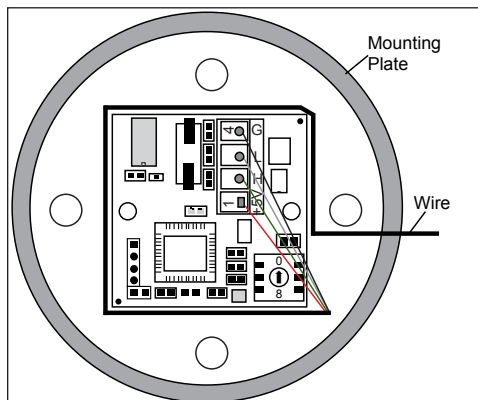

Figure 8: Wiring Around Sensor
4. Make sure to route cable around the sensor board as shown in **Figure 8**.
6. Make sure to route cable around the sensor board as shown in **Figure 8**. Connect the cable and reassemble the sensor.
5. Make sure to route cable around the sensor board as shown in **Figure 8**, and reassemble the sensor enclosure.